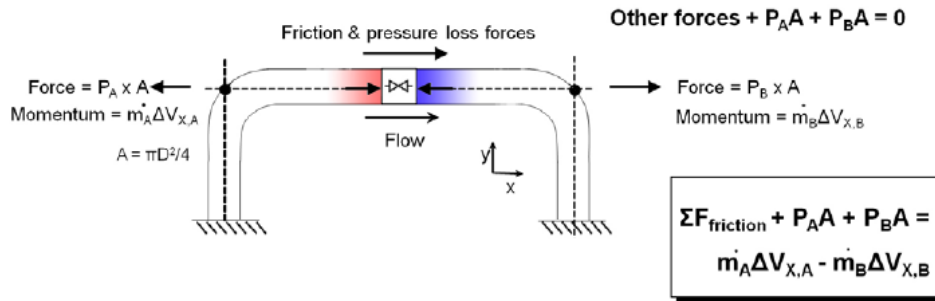

Figure 1: Schematic of the Difference force type
- **Difference** - Difference forces are defined between two nodes, or computation stations. These nodes should be located at 90 degree direction changes. There may be one or several junctions between the elbows so long as the flow does not branch between the nodes and all components are axially aligned. An example of this is the hydraulic loading between two elbows along the length of a pipe. See Figure 1 below.